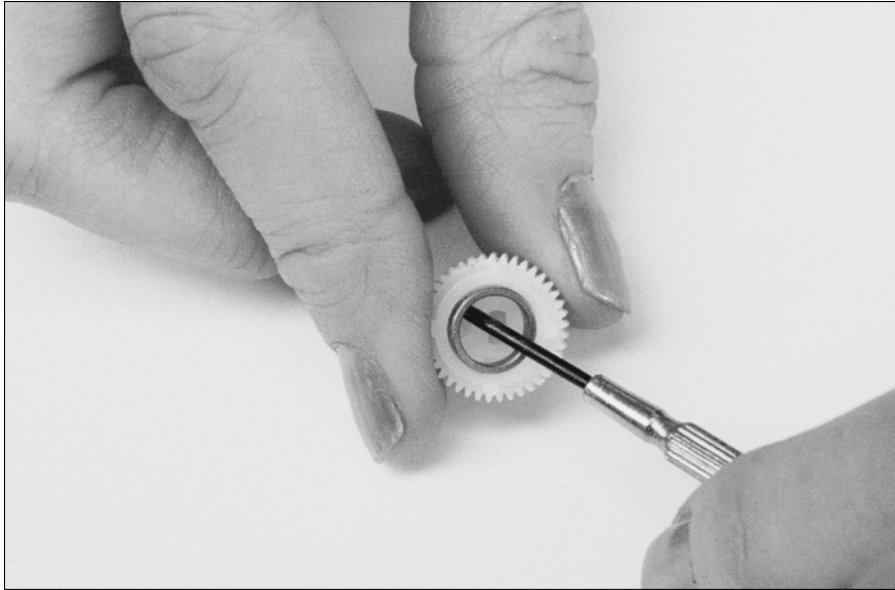

Figure 15-17:
- 10. Remove the metal retaining ring from the underside of the output gear (Figure 15-17), using the small-bladed screwdriver.**